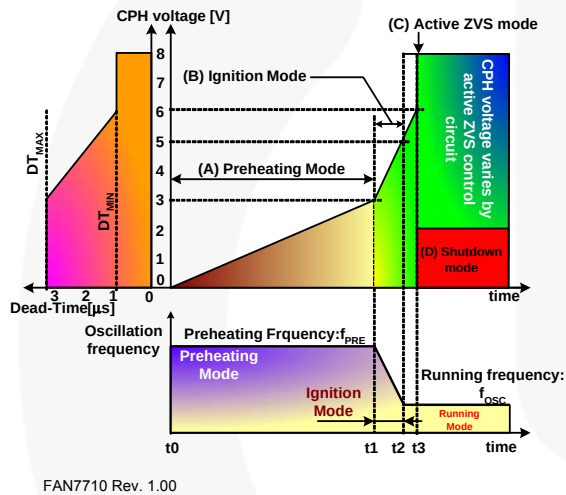

Figure 27. Operation Modes
FAN7710V has four operation modes: (A) preheating mode, (B) ignition mode, (C) active ZVS mode and (D) shutdown mode; all depicted in Figure 27. The modes are automatically selected by the voltage of CPH capacitor shown in Figure 27. In modes (A) and (B), the CPH acts as a timer to determine the preheating and ignition times. After preheating and ignition modes, the role of the CPH is changed to stabilize the active ZVS control circuit. In this mode, the dead time of the inverter is selected by the voltage of CPH. Only when in active ZVS mode is it possible to shut off the whole system using the CPH pin. Pulling the CPH pin below 2V in active ZVS mode causes the FAN7710V series to enter shutdown mode. In shutdown mode, all active operation is stopped except UVLO and some bias circuitry. The shutdown mode is triggered by the external CPH control or the active ZVS circuit. The active ZVS circuit automatically detects lamp removal (open-lamp condition) and decreases CPH voltage below 2V to protect the inverter switches from damage.
When the CPH voltage exceeds 3V, the internal current source charging CPH is increased about six times larger than I_{PH} , noted as I_{IG} , causing rapid increase in CPH voltage. The internal oscillator decreases the oscillation frequency from f_{PRE} to f_{OSC} as CPH voltage increases. As depicted in Figure 27, lowering the frequency increases the voltage across the lamp. Finally, the lamp ignites. Ignition mode is when CPH voltage is between 3V and 5V. Once CPH voltage reaches 5V, the FAN7710V does not return to ignition mode, even if the CPH voltage is in that range, until the FAN7710V restarts from below $V_{DDTH(ST-)}$. Since the ignition mode continues when CPH is from 3V to 5V, the ignition time is given by: